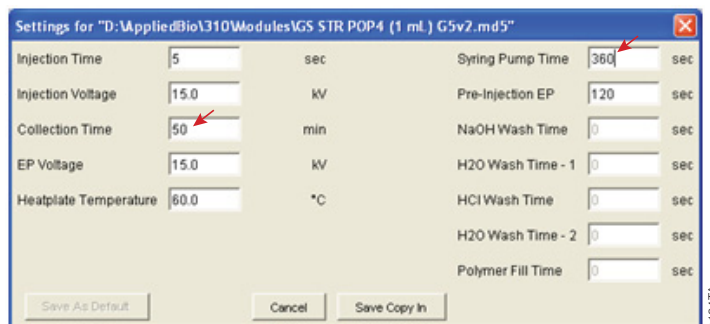

Figure 4. Changing the collection time and syringe pump time.
5. Change the Collection Time to “50” and Syringe Pump Time to “360” (Figure 4). Select “Save Copy In”.